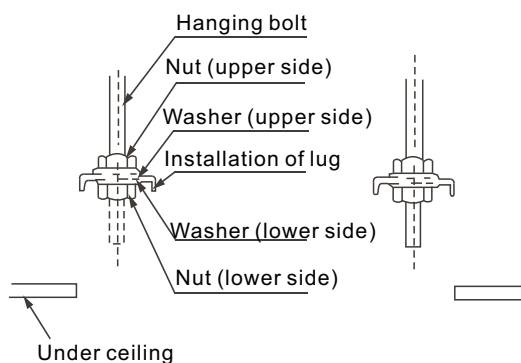

Figure 3.1
- 1) Adjust the location of the nut, and determine the space between the washer (lower side) and the ceiling according to the actual construction situation. Refer to Figure 3.1.